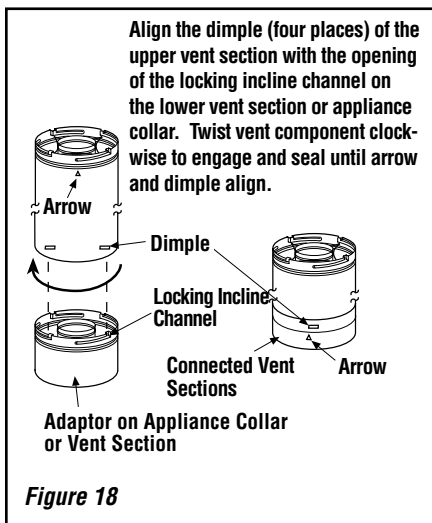

Figure 18
B. Attach adaptor (with probe) to appliance collar. Secure Vent™ SV4.5 direct-vent system components are unitized concentric pipe components featuring positive twist lock connections (*see Figure 18*).
To attach a vent component to the adaptor on appliance collar, align the dimpled end over the adaptor collar, adjusting the radial alignment until the four locking dimples are aligned with the inlet of the four inclined channels on the collar (*refer to Figure 18*). Push the vent component against the collar until it fully engages, then twist the component clockwise, running the dimples down and along the incline channels until they seat at the end of the channels.
Push the vent component against the previous section until it fully engages, then twist the component clockwise running the dimples down and along the incline channels until they seat at the end of the channels. **This seating position is indicated by the alignment of the arrow and dimple as shown in Figure 18.**
F. Change vent direction to horizontal/inclined run. At transition from or to a horizontal/inclined run, install the SV4.5 E45 and SV4.5 E90 elbows in the same manner as the straight vent sections. The elbows feature a twist section to allow them to be routed about the center axis of their initial collar section to align with the required direction of the next vent run element. **Twist elbow sections in a clockwise direction only so as to avoid the possibility of unlocking any of the previously connected vent sections** (*see Figures 18 and 20*).
Secure Vent™ SV4.5 direct-vent system components are unitized concentric pipe components featuring positive twist lock connection, (refer to **Figure 18 on Page 16**). All of the appliances covered in this document are fitted with collars having locking inclined channels. The dimpled end of the vent components fit over the appliance collar to create the positive twist lock connection.
To attach a vent component to the appliance collar, align the dimpled end over the collar, adjusting the radial alignment until the four locking dimples are aligned with the inlets of the four incline channels on the collar (refer to **Figure 18 on Page 16**).
Other vent sections may be added to the previously installed section in accordance with the requirements of the vent tables. To add another vent component to a length of vent run, align the dimpled end of the component over the inclined channel end of the previously installed section, adjusting the radial alignment until the four locking dimples are aligned with the inlets of the four incline channels of the previous section. Push the vent component against the previous section until it fully engages, then twist the component clockwise running the dimples down and along the incline channels until they seat at the end of the channels. **This seating position is indicated by the alignment of the arrow and dimple as shown in Figure 18 on Page 16.**
At transition from or to a horizontal/inclined run, install the SV4.5E45 and SV4.5E90 elbows in the same manner as the straight vent sections. The elbows feature a twist section to allow them to be routed about the center axis of their initial collar section to align with the required direction of the next vent run element. **Twist elbow sections in a clockwise direction only so as to avoid the possibility of unlocking any of the previously connected vent sections (see Figures 18 and 20 on Page 16).**